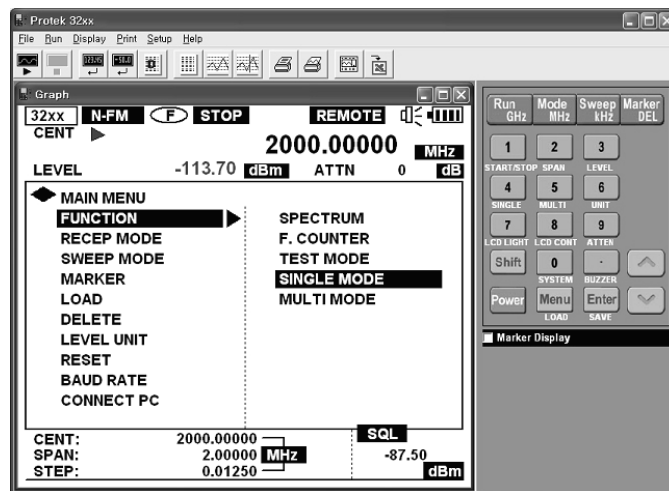

Figure 4.12. Set SINGLE MODE
- 2) As like the figure 4.12, select the MAIN MENU → FUNCTION → SINGLE MODE or MULTI MODE key on the screen in sequence. Also it is possible to use simultaneously with the Shift and "4" or "5" key to operate same performance.